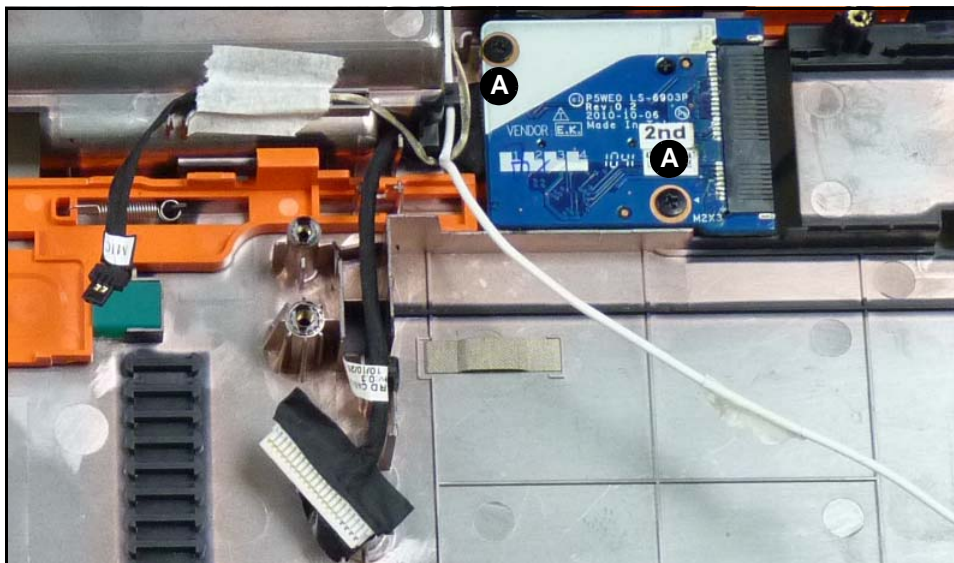

Figure 3-52. 3G Board Removal
1. Remove two (2) screws (A) from lower cover as shown in Figure 3-52.
1. Install 3G board on lower cover. (Figure 3-52)
2. Secure two (2) screws (A) to lower cover.